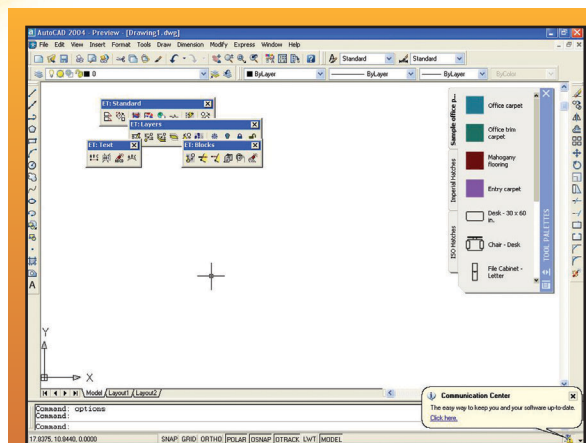

Figure 1: The default screen after installation
A decent review of any application should contain an image of the new user interface (UI). Figure 1 does just that, showing the default screen after a new install. Except for the white background (default is black), this is what you get.